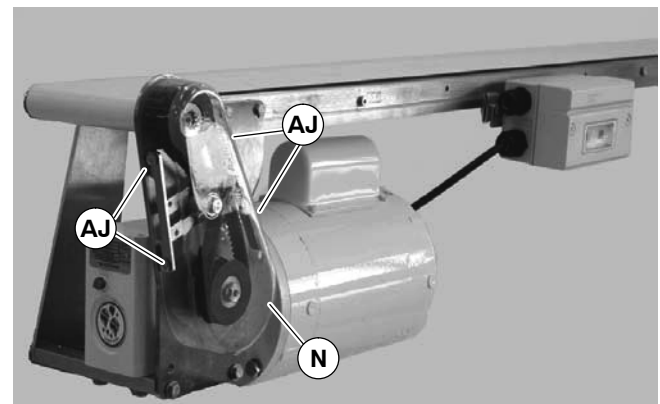

Figure 36
NOTE: Figures 36 through 45 shown gear reducer replacement procedure for a timing belt drive. Timing chain drive is similar except as noted.
1. Loosen four (4) screws (AJ of Figure 36) and remove cover (N).